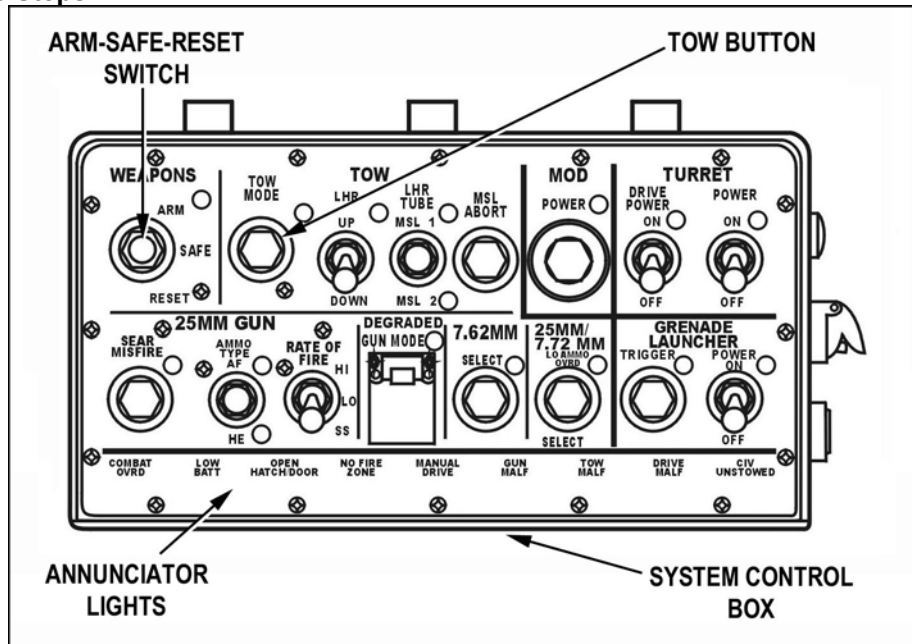

Figure 2. TOW button.
- a. Move the ARM-SAFE-RESET switch to RESET, then to SAFE (Figure 2).